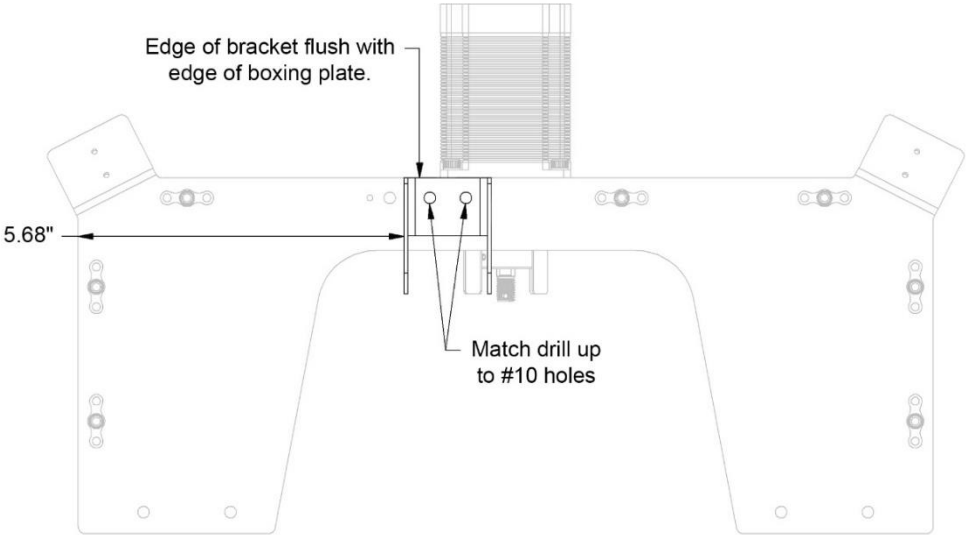

Figure 7: Positioning and Drilling Holes in Brackets
- 11. Position and clamp roller bracket in place, as shown Figure 7, and then drill holes through the brackets (see Figure 7).